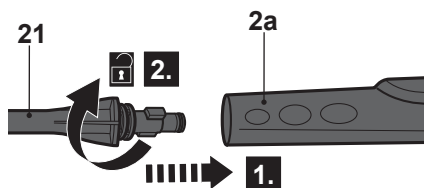

Fig. 23
- > Press the extension lance (21) towards the lance connection port (2a) of the spray gun (2) (Fig. 23, step 1) and turn it anticlockwise to remove it (Fig. 23, step 2).